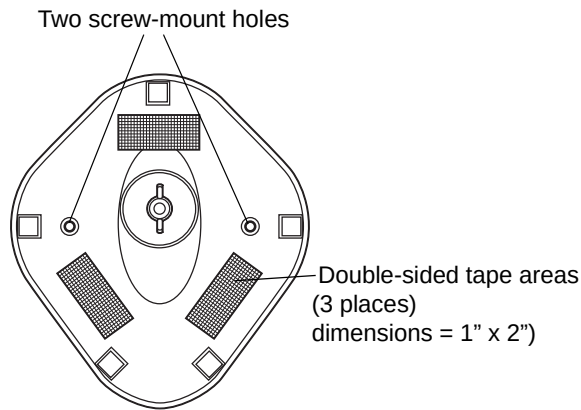

Figure 3-3 *Mounting the Stand*
2. Screw one #10 wood screw into each screw-mount hole until the base of the stand is secure (see Figure 3-3).
2. Peel the paper liner off the exposed sides of each piece of tape and press the stand on a flat surface until it is secure (see Figure 3-3).